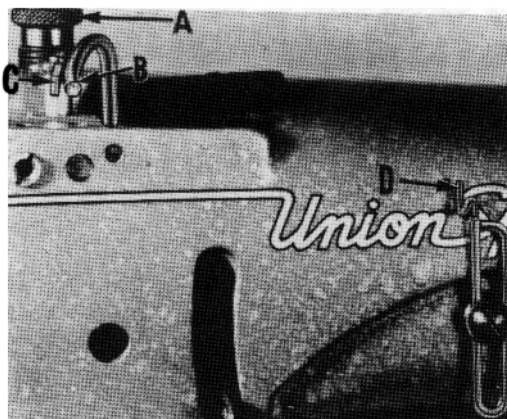

Fig. 14
Regulate the presser spring regulating screw (A, Fig. 14) so that it exerts only enough pressure on the presser foot to feed the work uniformly. This is located directly behind the needle bar in the head of the machine. Also, regulate the pressure on the upper roller feed, using only enough pressure to insure the uniform feeding of the material being sewn.
Set the needle thread take-up (B, Fig. 14), located adjacent to the needle bar thread eyelet (C), so that its upper surface projects $\frac{3}{32}$ inch above the line of thread when the needle bar has completed its downward stroke. Set the needle thread frame eyelet (D) so the smallest noticeable mount of thread is drawn through the needle thread tension while the needle is descending. (Setting this eyelet too high can cause the needle thread around the looper to be pulled from under the front retainer prematurely).